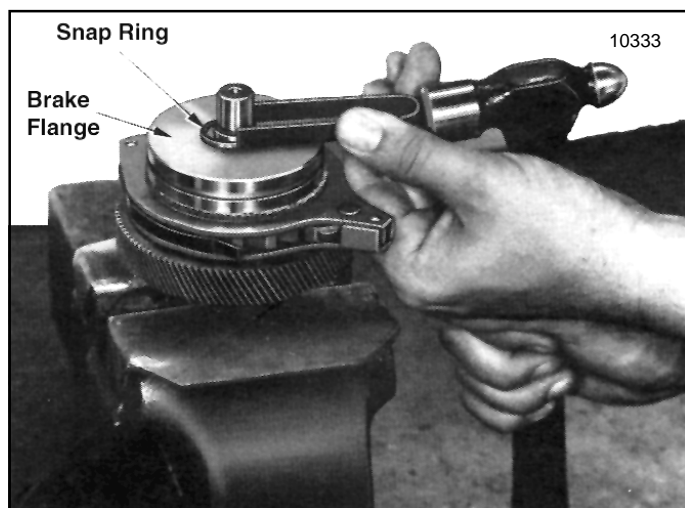

Figure 7-18. Removing Snap Ring from Load Brake Shaft
(1) Place load brake and clutch assembly, flange up, in a vise equipped with brass or copper jaw plates to protect pinion gear teeth. Remove snap ring from end of load brake shaft (Figure 7-18).